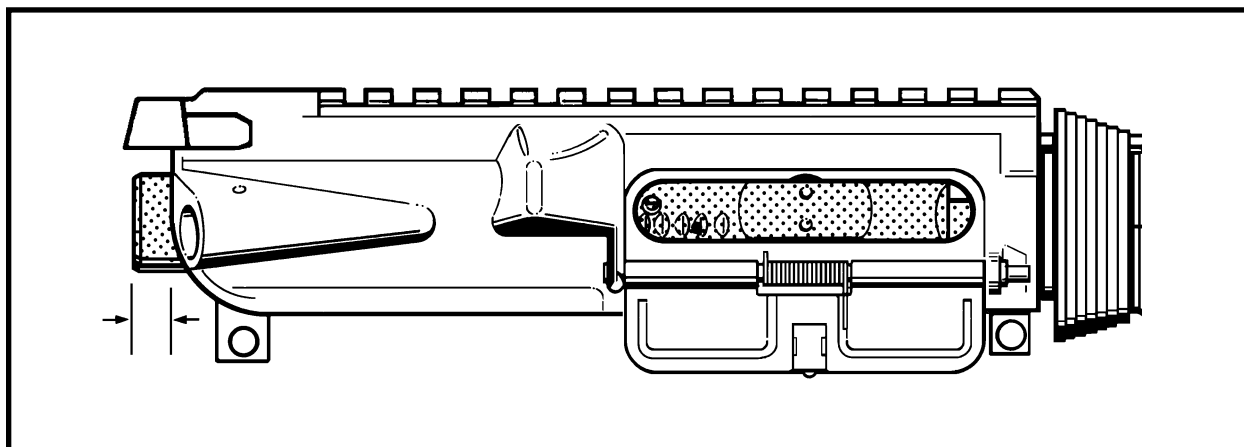

Figure 4-5 Correct Indication with "NOT GO" Headspace Gauge
8. The bolt shall close and lock over the “GO” headspace gauge. It shall not lock over the “NOT GO” headspace gauge. See Figure 4-5. If the weapon does not pass the test, retest it with a known serviceable bolt assembly to determine the source of the problem. If after retesting with